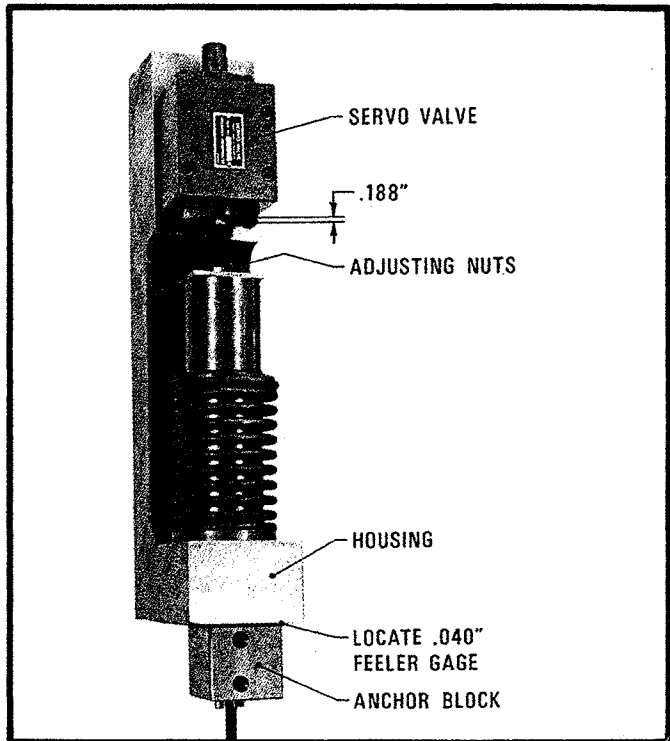

FIGURE 45
5. Adjust position of valve spool with adjusting nuts to obtain .188" ±.005" dimension. See Figure 45.